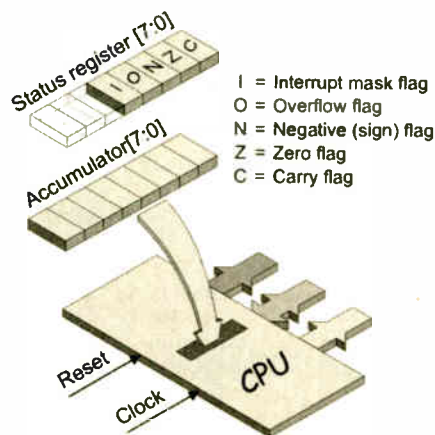

Fig.4. The accumulator (ACC) and status register (SR)
There are just a couple more things we need to know before we plunge headfirst into the fray. As illustrated in Fig.4, amongst other things, our CPU contains two 8-bit registers called the *accumulator* (ACC) and the *status register* (SR). (In this context, the term "register" refers to a